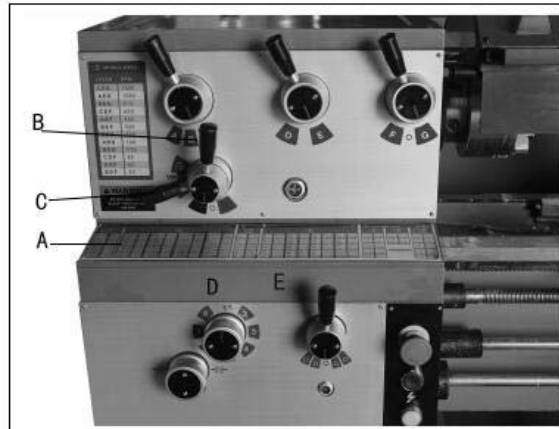

Figure 18
1. Refer to the feed and thread charts found on the gear box faceplate (A, Fig. 18 and sect. 13.0 of this manual).
2. Move levers (B, C, D, E, F, Fig. 18) to the appropriate positions according to the chart.
The 30T, 32T, and two 40T gears found in the tool box are used with different combinations as indicated on feed and thread tables (A, Fig. 18).